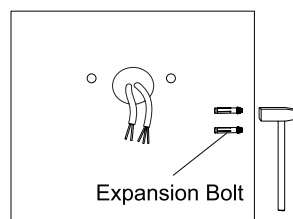

Figure 15
Step 2: Knock the expansion bolts into the wall. (Fig. 15)